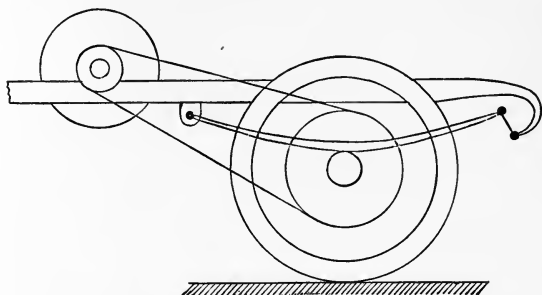

Fig. 2.
4. The crank-shaft of a motor-car engine with a heavy fly-wheel is set transversely to the frame and drives the back axle by a direct chain drive as shewn in fig. 2. The front sprocket wheel is connected to the engine shaft by means of a friction clutch. The car is standing still with the engine running light at angular velocity ω , when the clutch is suddenly let in, shew that the momentum of the flywheel will impart to the car a velocity